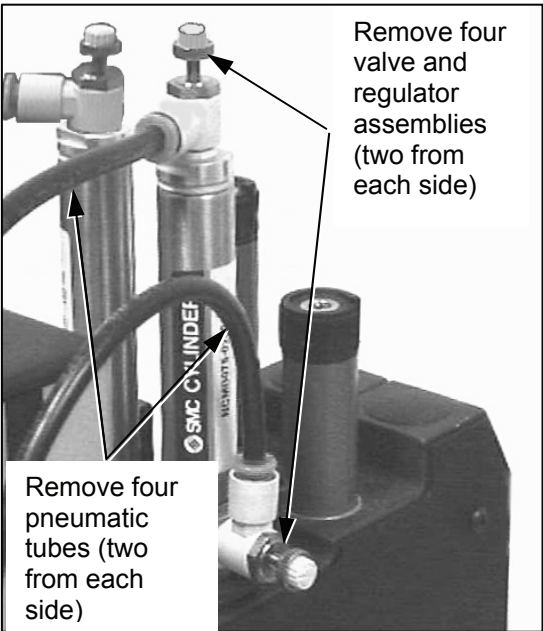

Figure 2-1. Removing Existing Air System Pneumatics
- 3 Note which way each of the four valve assemblies are facing. Remove the two existing valve assemblies from the top and bottom of each of the two air cylinders. Clean any pipe joint sealant from the cylinders (figure 2-1).